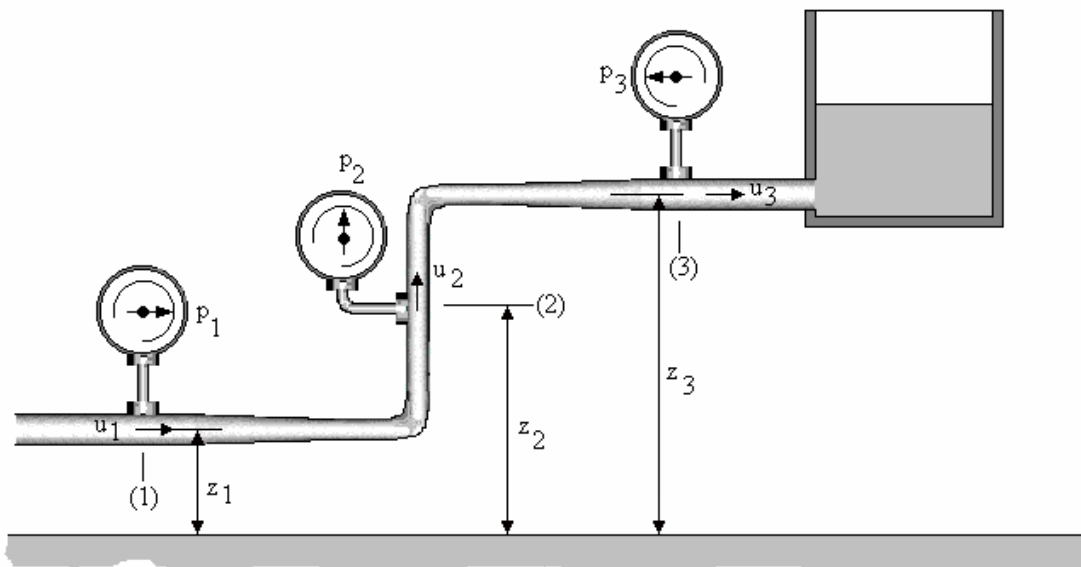

Fig.3.1
When a fluid flows at a constant rate in a pipe or duct, the mass flow rate must be the same at all points along the length. Consider a liquid being pumped into a tank as shown (fig.3.1).
The total energy E_T at (1) and (2) on the diagram (fig.3.1) must be equal so :